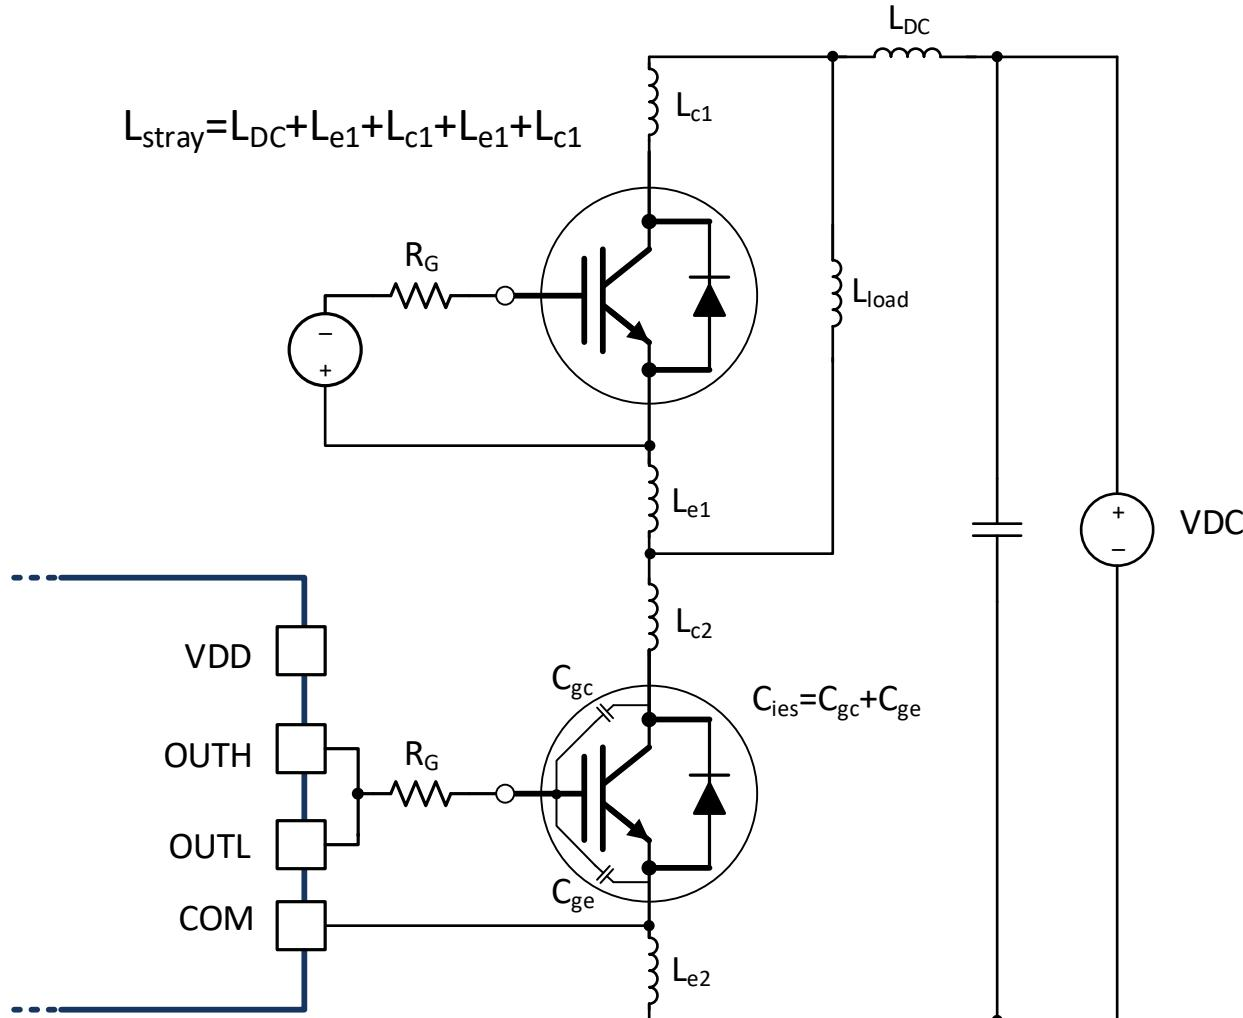

图 9-6. Stray Parasitic Inductance of IGBTs in a Half-Bridge Configuration
- $L_{\text{stray}}$  is the stray inductance in power switching loop, as shown in 图 9-6.